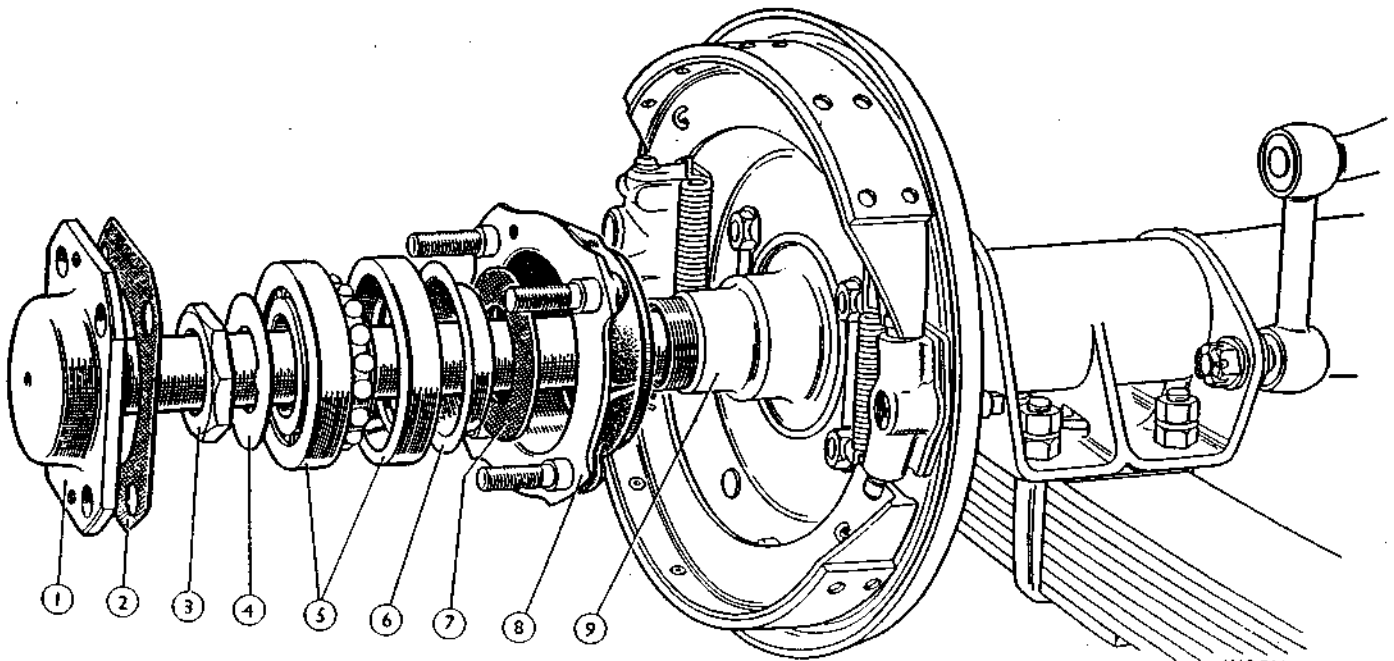

Fig. 2.
10. The extractor is fitted over the wheel studs and the nuts should be screwed well down. By screwing up the central bolt of the extractor, using either a spanner or a tommy bar, the hub and double-row ball bearing, together with washers and oil seal, will be withdrawn. The actual order of assembly will be seen in Fig. 2.